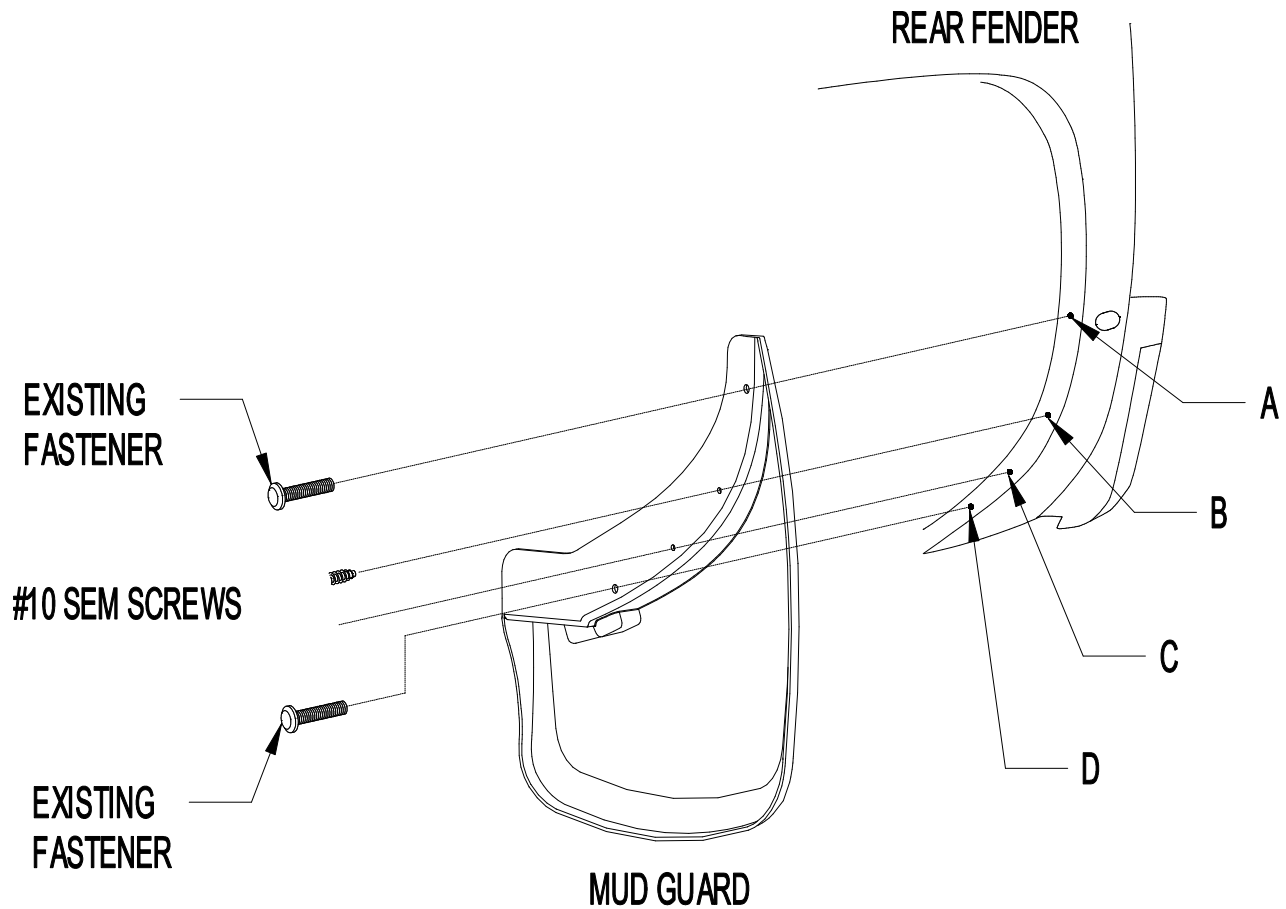

Figure 1
1. Remove the existing fasteners from locations A and D (Figure 1).
4. Install #10 SEM screws at locations B and C (Figure 1).